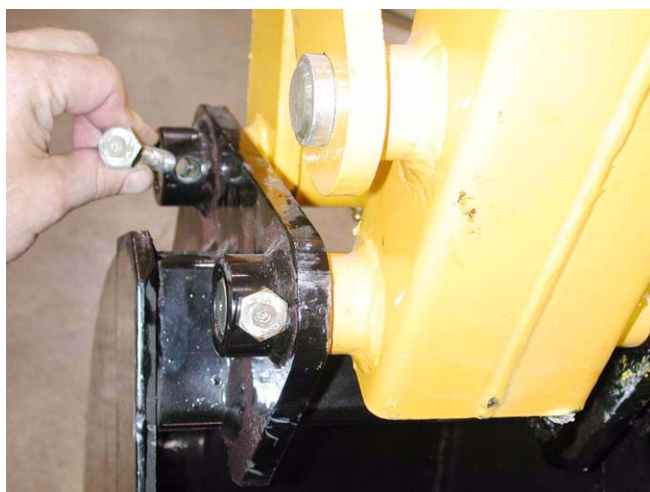

Figure 1.68
- 1.68. Secure the bucket to the dipperstick using the large pins. Lock the pins in place using the nuts and bolts provided in the kit. See Figure 1.68.